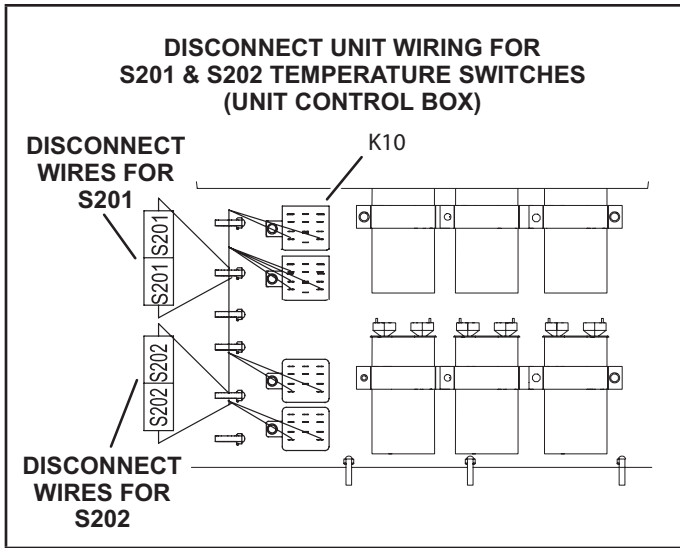

FIGURE 3
- 2 - Disconnect male and female terminals from wires marked "S201" and "S202" near K10 relay. See figure 3.